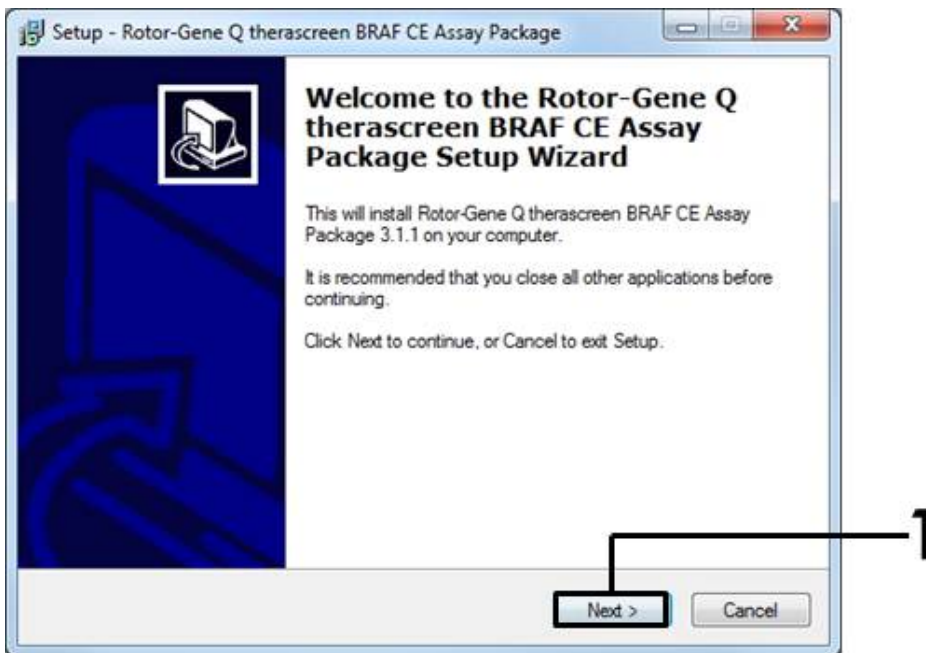

Figure 41. The “Setup” dialog box. (1 = “Next” button).
4. The setup wizard will appear. Click “Next” to continue (Figure 41).